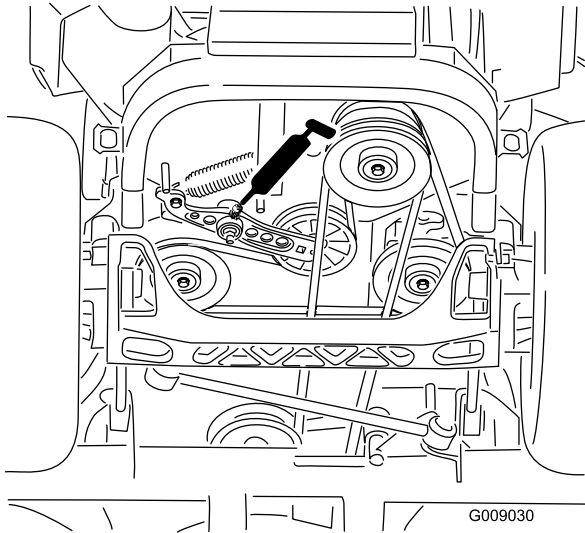

Figure 50
4. Grease the drive-belt idler arms (Figure 50).